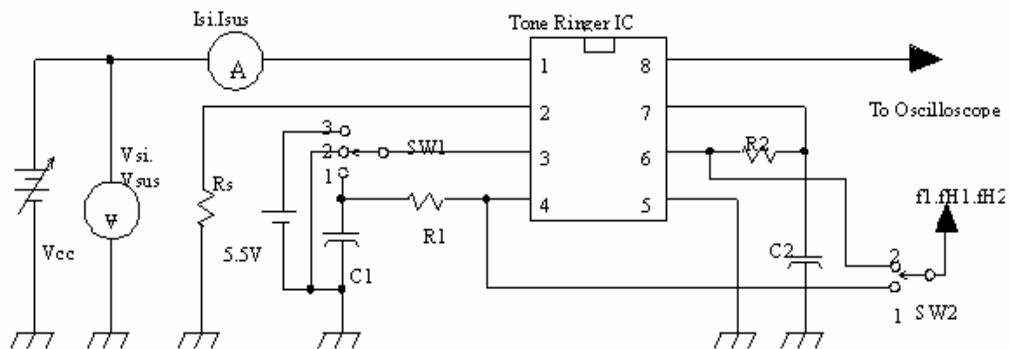

Figure 3. Test Circuit (2)
3. Ringing start voltage is the value of AC supply voltage required to start the tone ringer ringing in FIG.3
The supply current drawn prior to triggering varies inversely with RSL, decreasing for increasing value of resistance. Thus, increasing the value of RSL will decrease the amount of AC ringing current required to trigger the device. As such, longer subscriber loops are possible since less voltage is dropped per unit length of loop wire due to the lower current level. RSL can also be used to compensated for smaller AC couplin capacitors (C5 on Fig 3) (higher impedance) to the line which can be used to alter the ringer equivalence number of a tone ringer circuit.